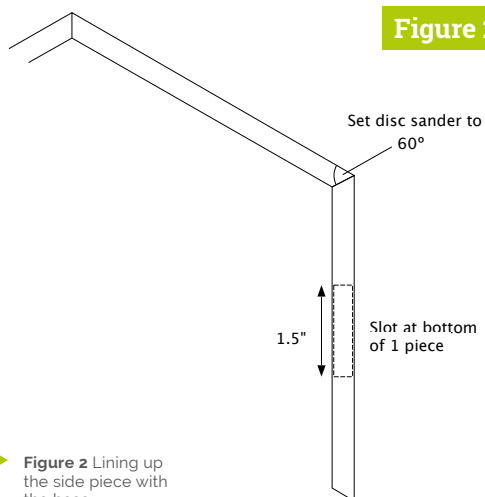

Figure 2
► Figure 2 Lining up the side piece with the base
To complete the box, cut out the six sides. You will notice that one side has a very small slot in it: this is for the ribbon cable to leave the box and is only 1 mm deep – make it with a couple of strokes of a flat file. Each edge of each side piece needs to be bevelled at 60 degrees; we did this using a disc sander with the guide set to this angle using a 30/60 set square. The shape is shown in **Figure 2**; make sure the bevelled edges are done so that the side with the ribbon cable exit slot rests on the bottom of the case.